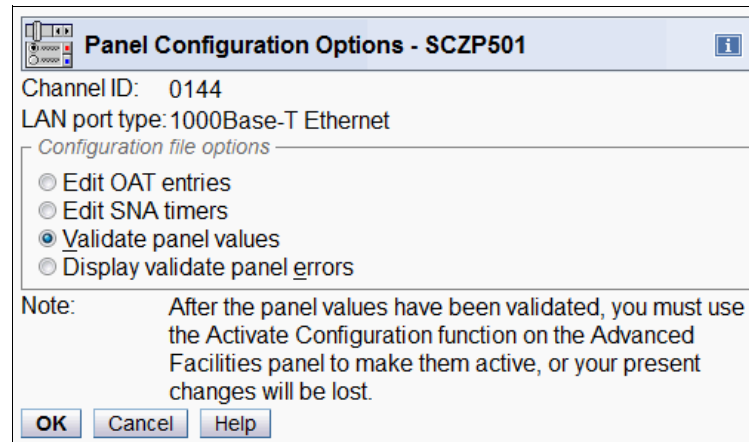
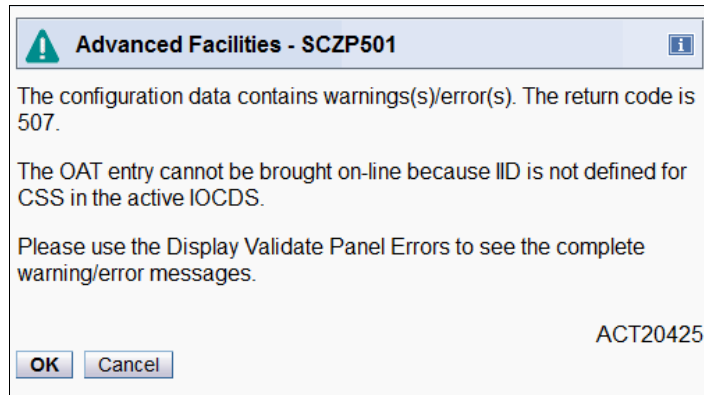

Figure 14-12 OSA/SF on HMC: Validate panel values
Figure 14-14 OSA/SF on HMC: error on Validate panel value
- When you complete editing the OAT entries or SNA timer, the Panel Configuration Options panel is displayed again. To activate your setting, you must validate your entries by selecting **Validate panel values**. Then, click **OK** (Figure 14-12).
Otherwise, a window with ACT20425 message (Figure 14-14) opens, indicating that an error was found on the entry. To find the reason for the error, select **Display validate panel errors** (Figure 14-12 on page 660), and correct the error. Then validate the panel value again until the error is fixed.